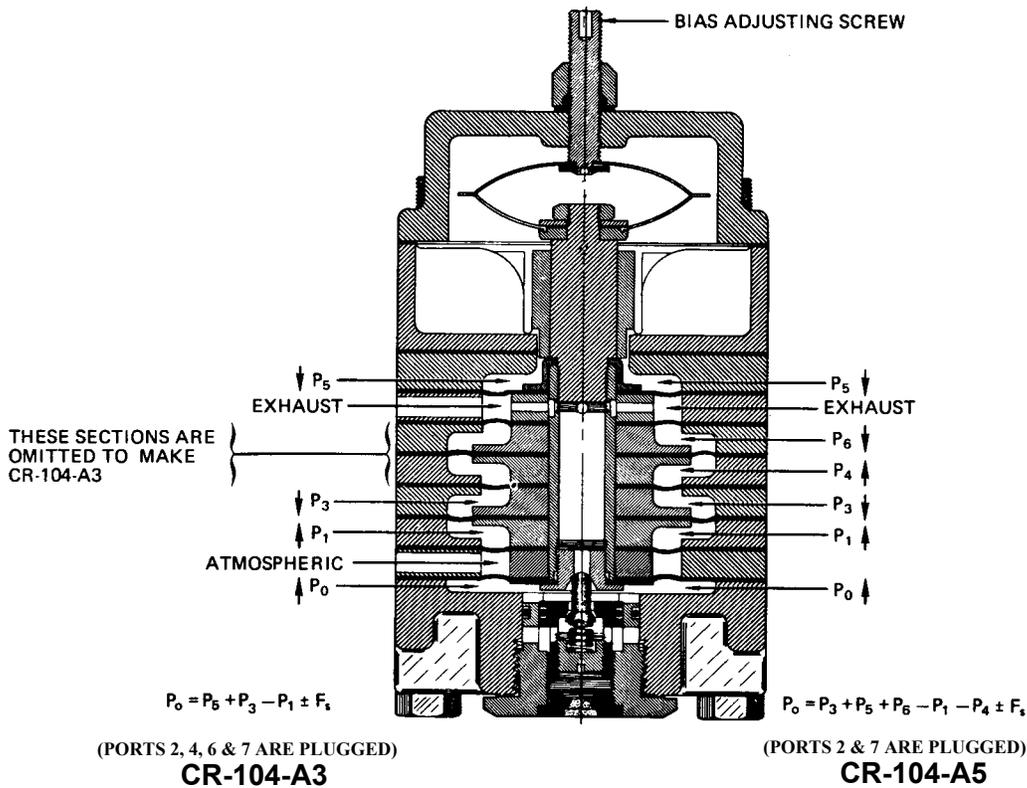

Figure 2
**OPERATION ( Refer to fig. 2)**